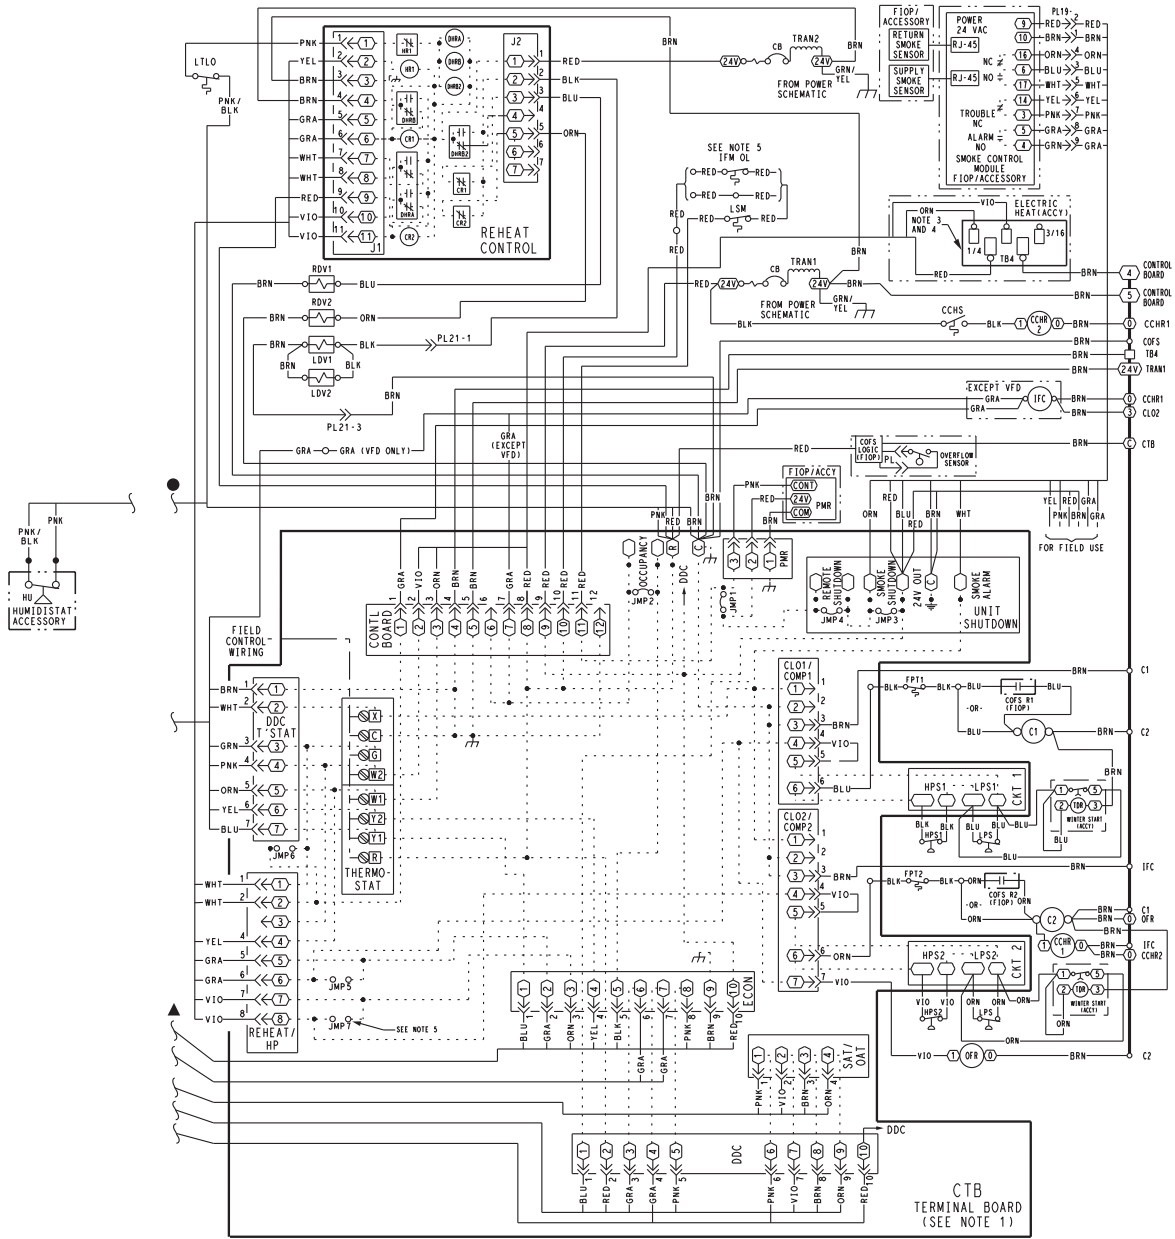

Fig. 41 — Typical Perfect Humidity™ Adaptive Dehumidification System Humidistat Wiring
5. Use wire nuts to connect humidistat cable to two PINK leads in the low-voltage wiring as shown in Fig. 41).